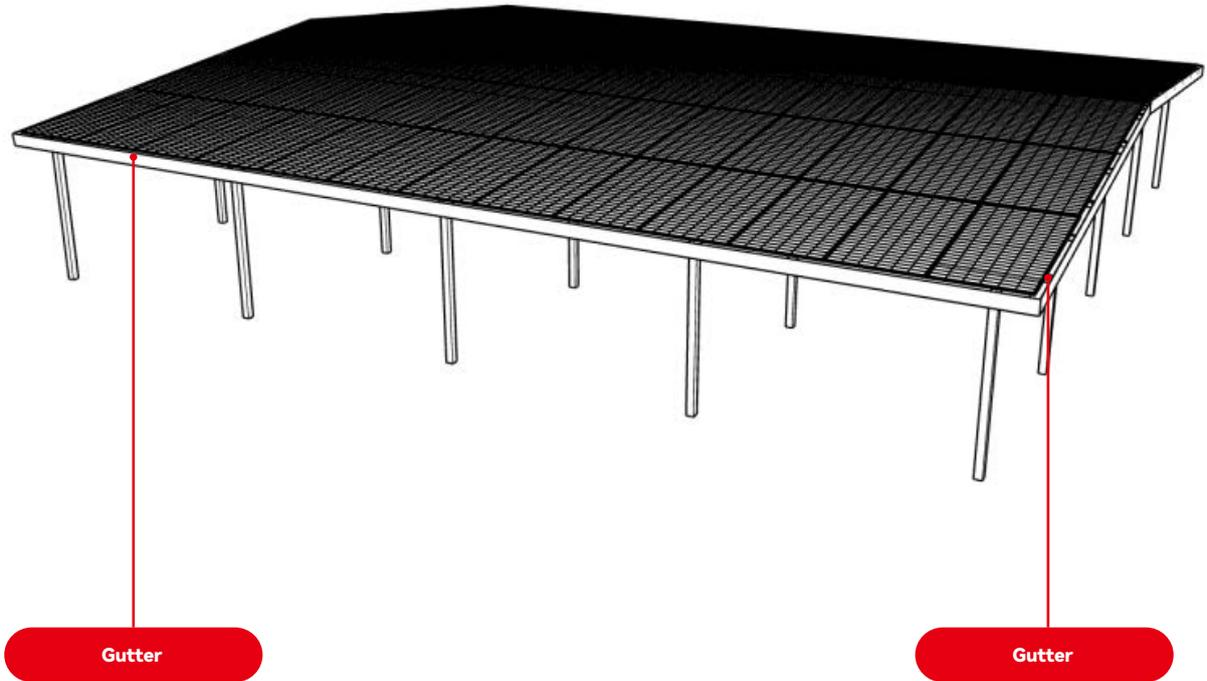

FIGURE 29
- Install the finished gutter around the perimeter (Figure 29) to complete the installation.